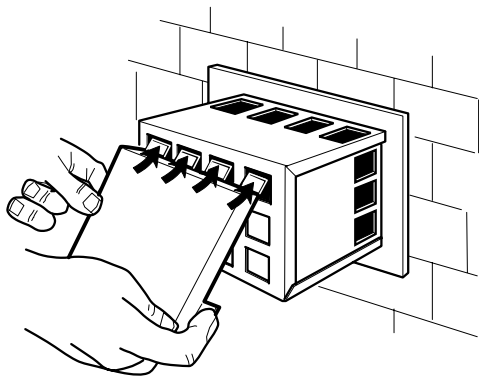
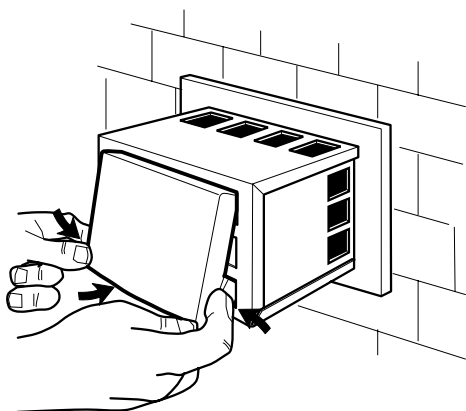

Fig. 25
Fig. 26
- 12 Fit the clip on the deflector plate to the face of the terminal. Locate the lugs on the top edge of the deflector into the upper holes on the front face of the terminal, see Fig. 25. Carefully depress the sides of the deflector and locate the side lugs into the holes in the terminal as shown in Fig. 26.